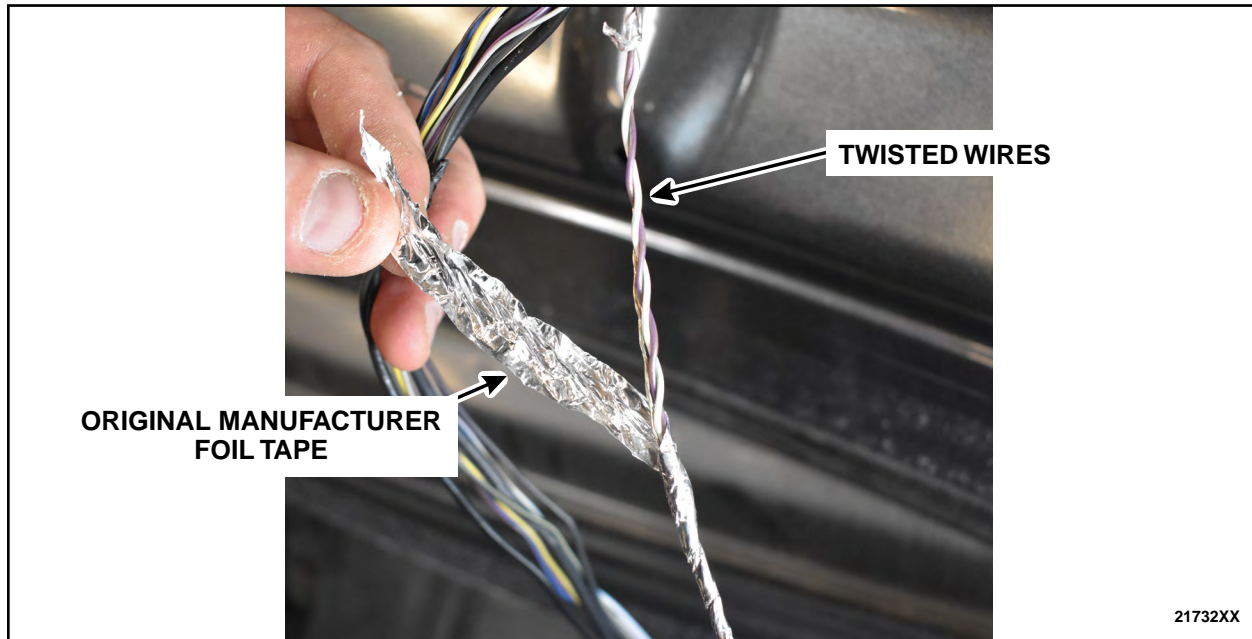

FIGURE 17
26. Wrap the full length of the exposed twisted wires using the original manufacturer foil tape while making sure to properly overlap the wires and have enough tape length to completely cover the wires. See Figure 17.